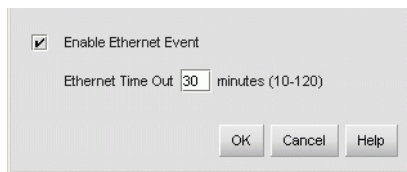

Figure 29: Configure Ethernet Events dialog box
2. At the HAFM or EWS main window, select the **Monitor > Ethernet Event**. The Configure Ethernet Events dialog box displays (Figure 29).